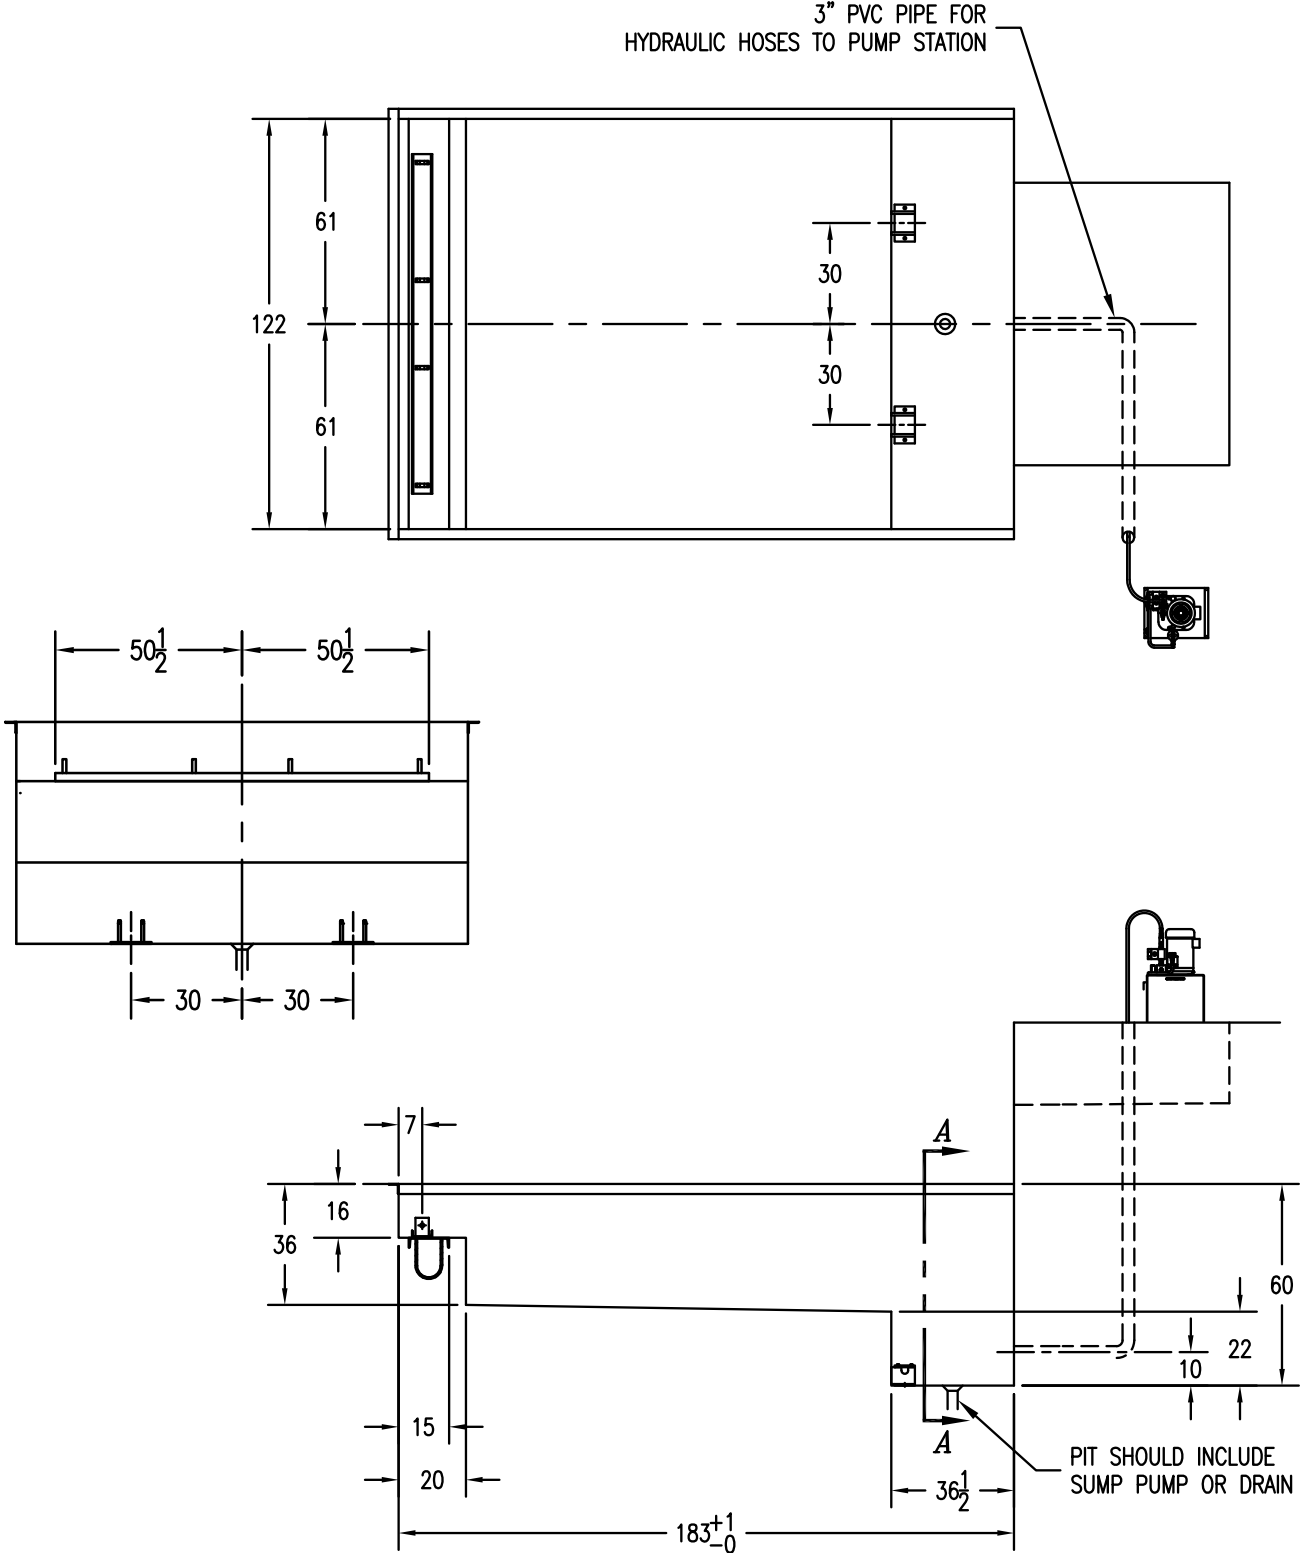

Figure 6
10. Once truck leveler is inside the building, or near the install position, place the truck leveler on four (4) blocks at least 8" (203.2 mm) tall and able to hold at least 2000 lbs (1000 kg) of weight to prepare the hydraulic installation.
11. Review layout drawings provided by Systems, LLC to gain an understanding of the next required steps. **Figure 6 is an example of a typical installation. Always use the measurements shown on the drawings provided with your equipment.**